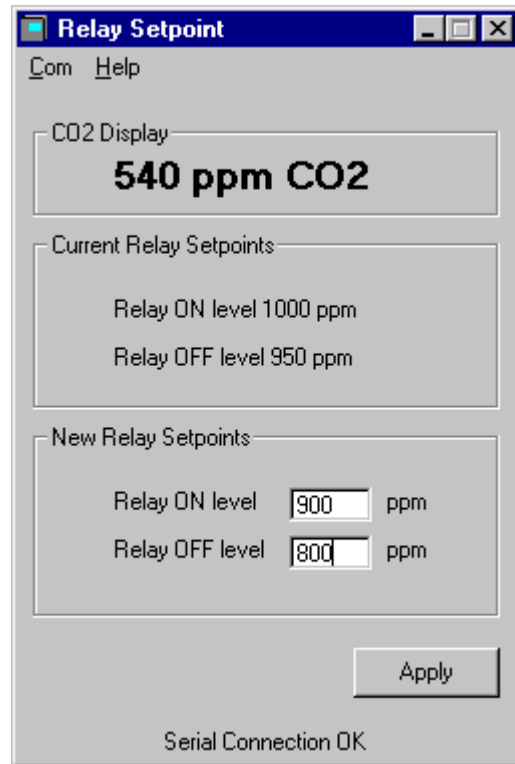

Figure 4: Relay Setpoint Configuration Menu
- Identify the computer port where the serial COM adaptor is connected and select it from the Com pull-down menu (see Figure 4).